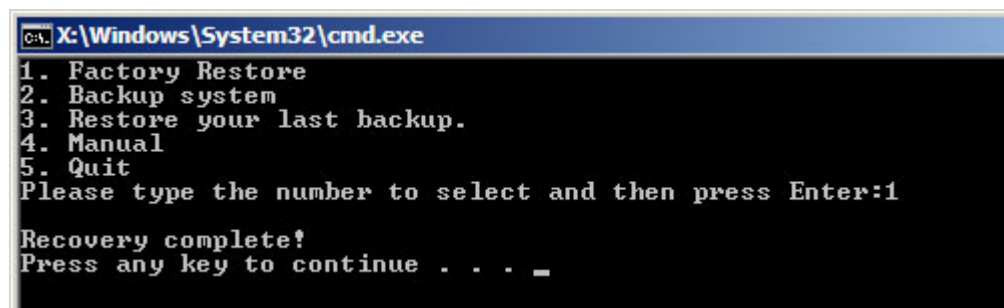

Figure B-25: Recovery Complete Window
Step 3: The screen is shown as in **Figure B-25** when completed. Press any key to reboot the system.
Step 3: The screen is shown as in **Figure B-25** when system backup is completed.
Step 3: The screen is shown as in **Figure B-25** when backup recovery is completed.